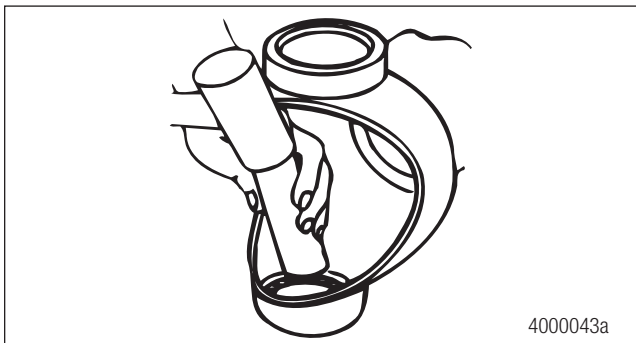

Figure 4.26
- a. Drive the welch plug and bushing toward the outside of the socket. Use a sleeve that is slightly smaller than the socket bore. Figure 4.26.